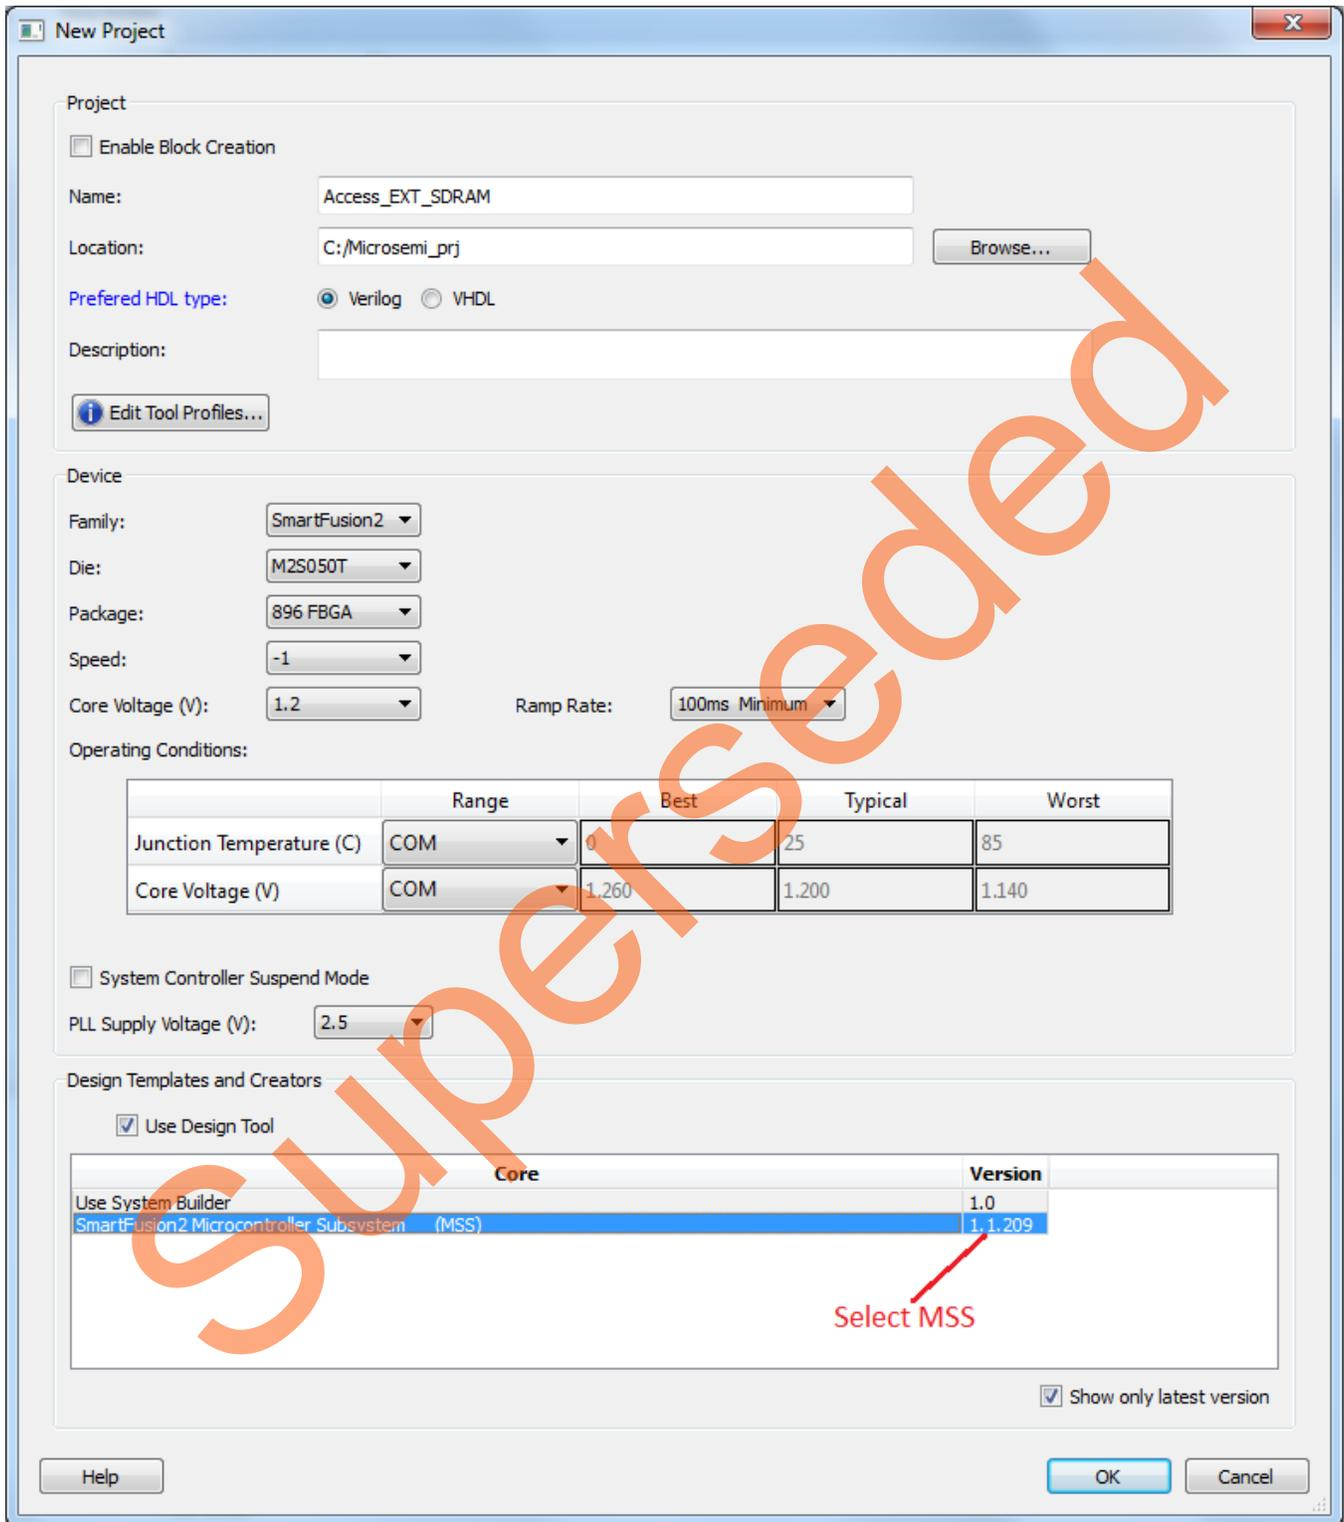

Figure 3. New Project Window
2. From the **Project** menu, select **New Project**. Enter the information as displayed in Figure 3.
- Core Voltage (V): 1.2
- PLL Supply Voltage (V): 2.5
Figure 3 shows the **New Project** window.